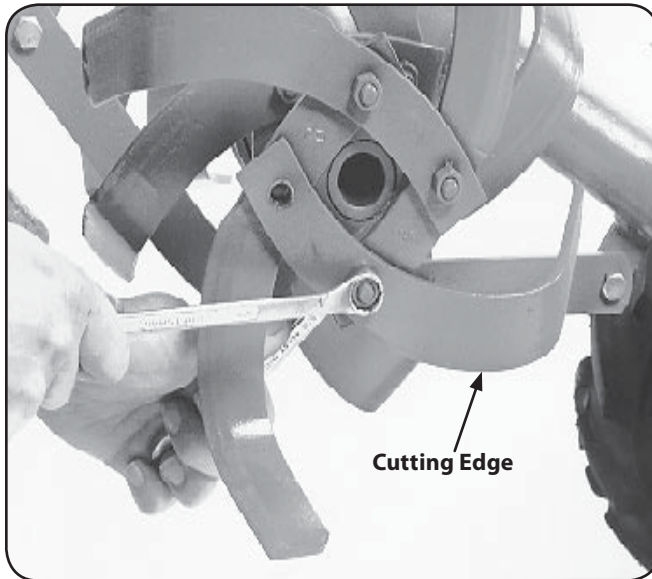

Figure 7-9
1. Remove the two screws and nuts that attach a single tine to the tine holder. If needed, use penetrating oil to help free the nuts. See Fig. 7-9.